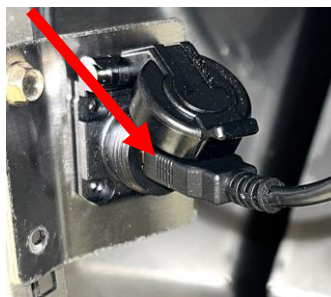

Figure 17
17. Connect to the USB plug on the rear of the Vat #1 controller. If a cooling housing is installed, connect the modem to the USB software update port (see Figure 17). Note: The appearance of the USB port may differ depending on date of manufacture.